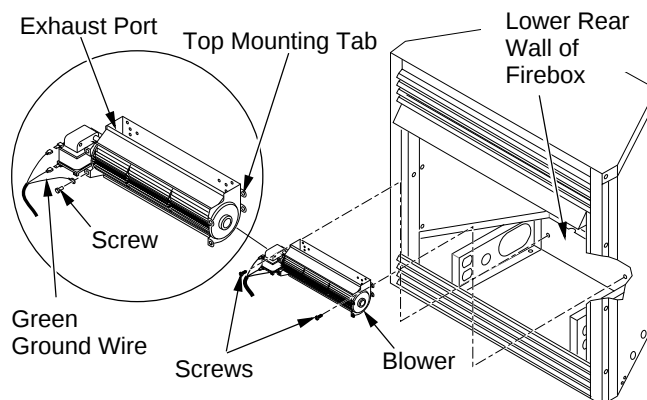

Figure 18 - Mounting Blower to Firebox
5. Attach green ground wire from power cord to blower housing using screw provided (see Figure 18). Tighten screws securely.
6. Place the blower against lower rear wall of firebox outer wrapper with the exhaust port directed upward. Align the holes in top mounting tabs of blower with holes in wall of wrapper (see Figure 18, page 6). Using 2 screws provided, mount blower and tighten screws securely.